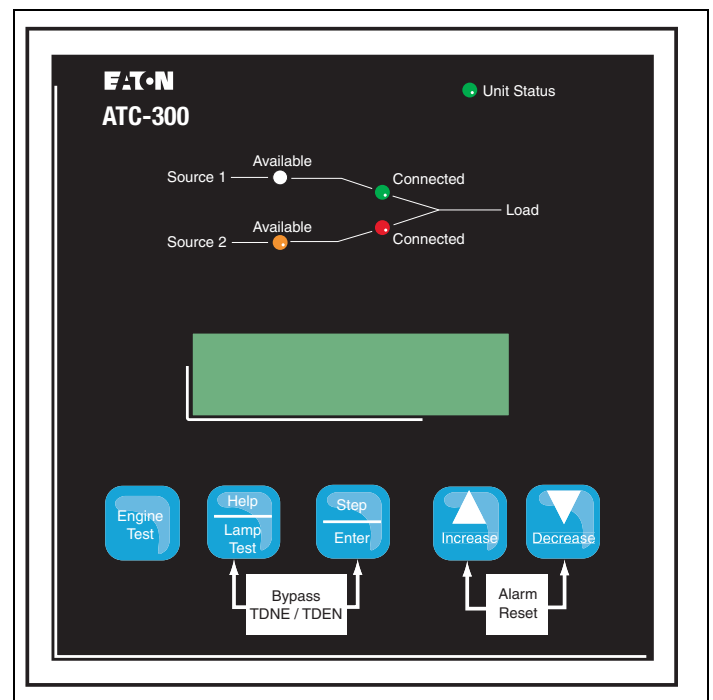

Figure 45. ATC-300 Logic.
Step 9: Initiate a Load Test from the front panel of the ATC-300 (Figure 45). This may be done by setting the engine test setpoint to: